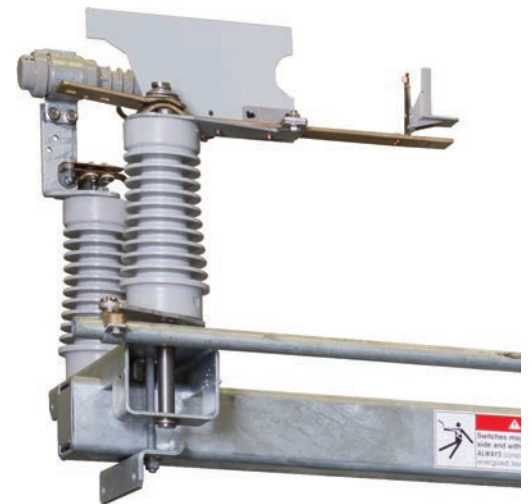

Figure 11. Open-gap wildlife protection.
**Open-gap wildlife protection** deters squirrels and other small animals from making contact across the open gap of an Omni-Rupter Switch. Sectionalizing switches in the normally **Open** position or opened to de-energize a section of line for maintenance do not discourage squirrels from traversing power lines. S&C's blade-mounted, retrofittable barriers force climbing animals to jump over the insulated panel, making it more difficult for these animals to bridge an open gap. See Figure 11.